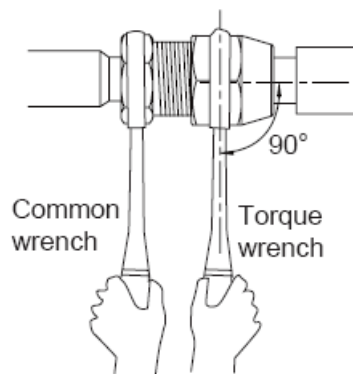

Fig. 14
- (3) Use torque wrench to twist on the flared nut tightly until the wrench gives out a click sound. (Hold the handle of wrench and make it at right angle to the pipe. as in Fig. 14)